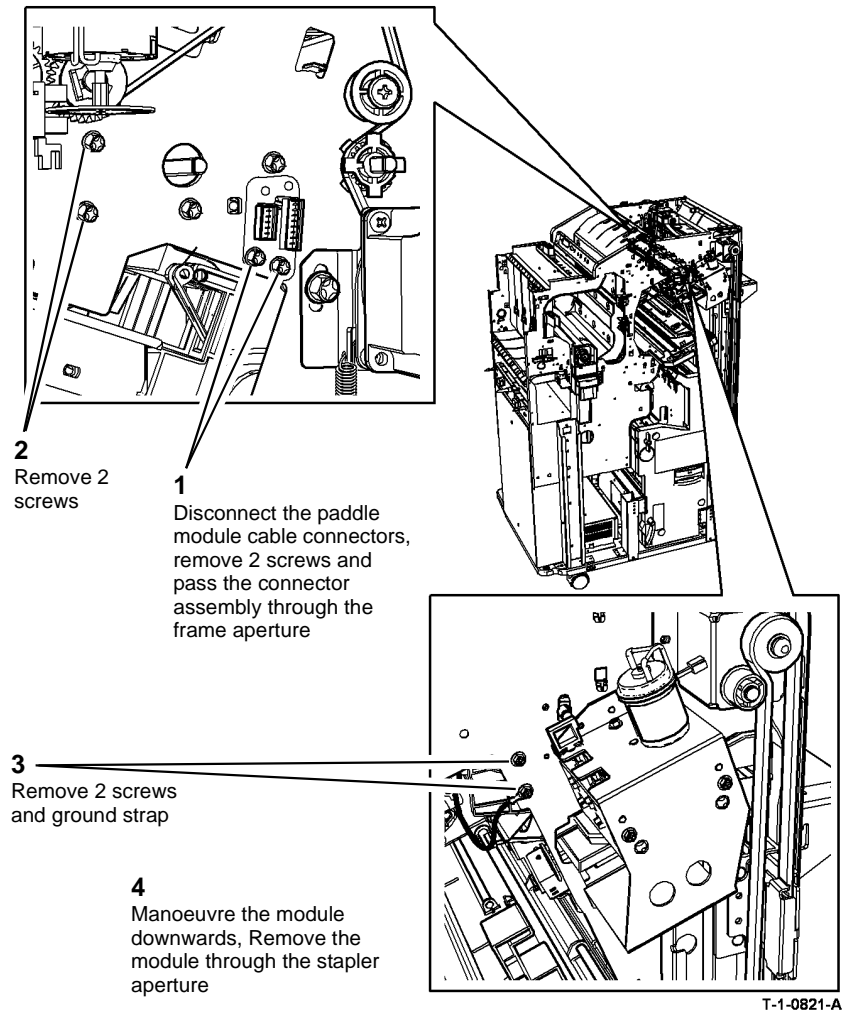

Figure 1 Paddle module attachment
4. Remove the compiler paddle module, Figure 1.